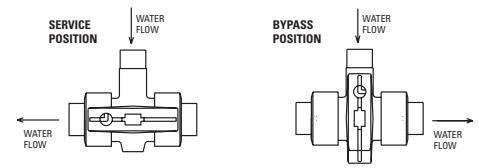

Figure 1
4. Open flushing valve and slowly turn 3-way inlet valve handle to the service position (See figure 1 for valve orientation). Water should begin to flow from the garden hose to the drain.